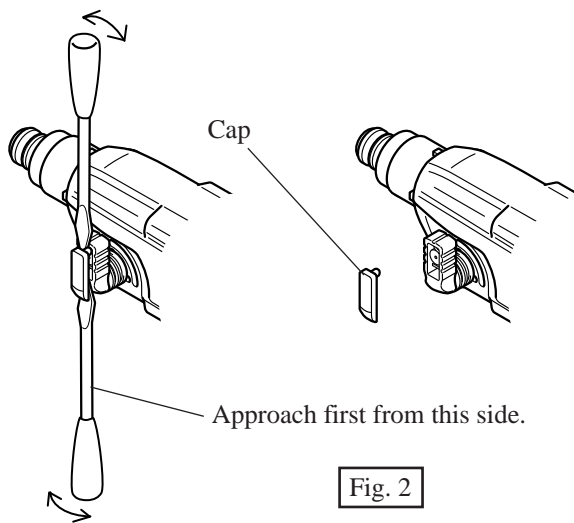

Fig. 2
1. Disassemble cap from change lever by twisting the flat head screwdriver inserted between cap and change lever, as illustrated in Fig. 2.